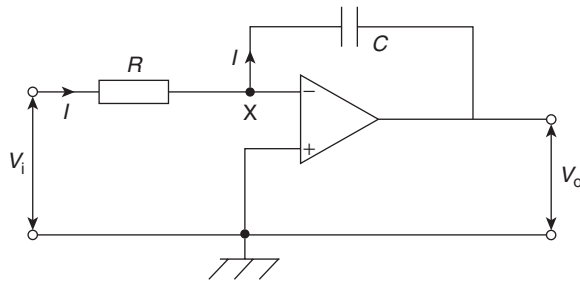

Figure 19.15
The circuit for the op amp integrator shown in Fig. 19.15 is the same as for the op amp inverting amplifier shown in Fig. 19.5, but feedback occurs via a capacitor C , rather than via a resistor.
Since the inverting (−) input is used in Fig. 19.15, V_o is negative if V_i is positive, and vice versa, hence the negative sign in equation (9).
Since X is a virtual earth in Fig. 19.15, i.e. at 0 V, the voltage across R is V_i and that across C is V_o . Assuming again that none of the input current I enters the op amp inverting (−) input, then all of current I flows through C and charges it up. If V_i is constant, I will be a constant value given by $I = V_i/R$. Capacitor C therefore charges at a constant rate and the potential of the output side of C ($= V_o$, since its input side is zero) changes so that the feedback path absorbs I . If Q is the charge on C at time t and the p.d. across it (i.e. the output voltage) changes from 0 to V_o in that time then: